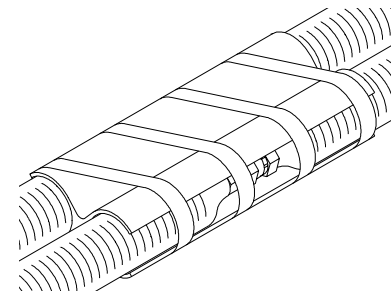

Figure 10. Hose Connection Step (d)
- d) Tape the Isolator securely in place between the hydraulic fittings (see Figure 10).